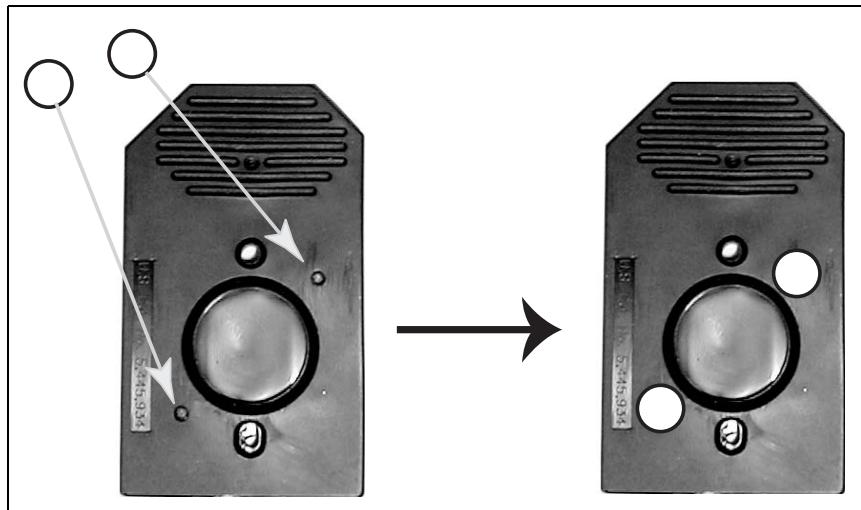

Figure 5.1
2. Carefully apply one Tough-Spots to each of the two septa. Press to ensure that the spots remain flat. If the Tough-Spots do not apply smoothly, that is, if you observe bumps, bubbles, tears, or curled edges, do not attempt to smooth out the spot. Remove the spot and apply a new spot. See Figure 5.1.